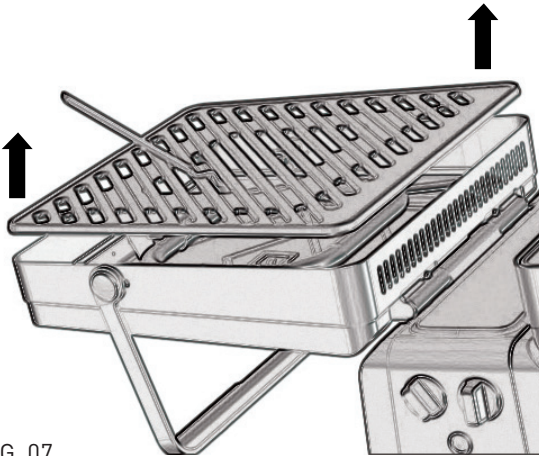

FIG. 07
2. Stabilize tool and lift slightly. (Fig. 07)